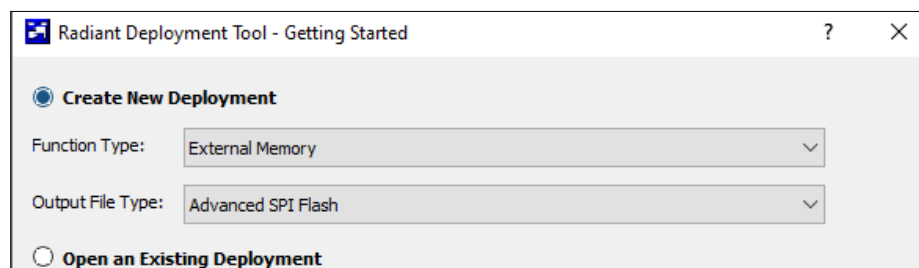

Figure 7.59. Options for Creating New Deployment
5. Apply the settings as shown in Figure 7.59 and click **OK**.